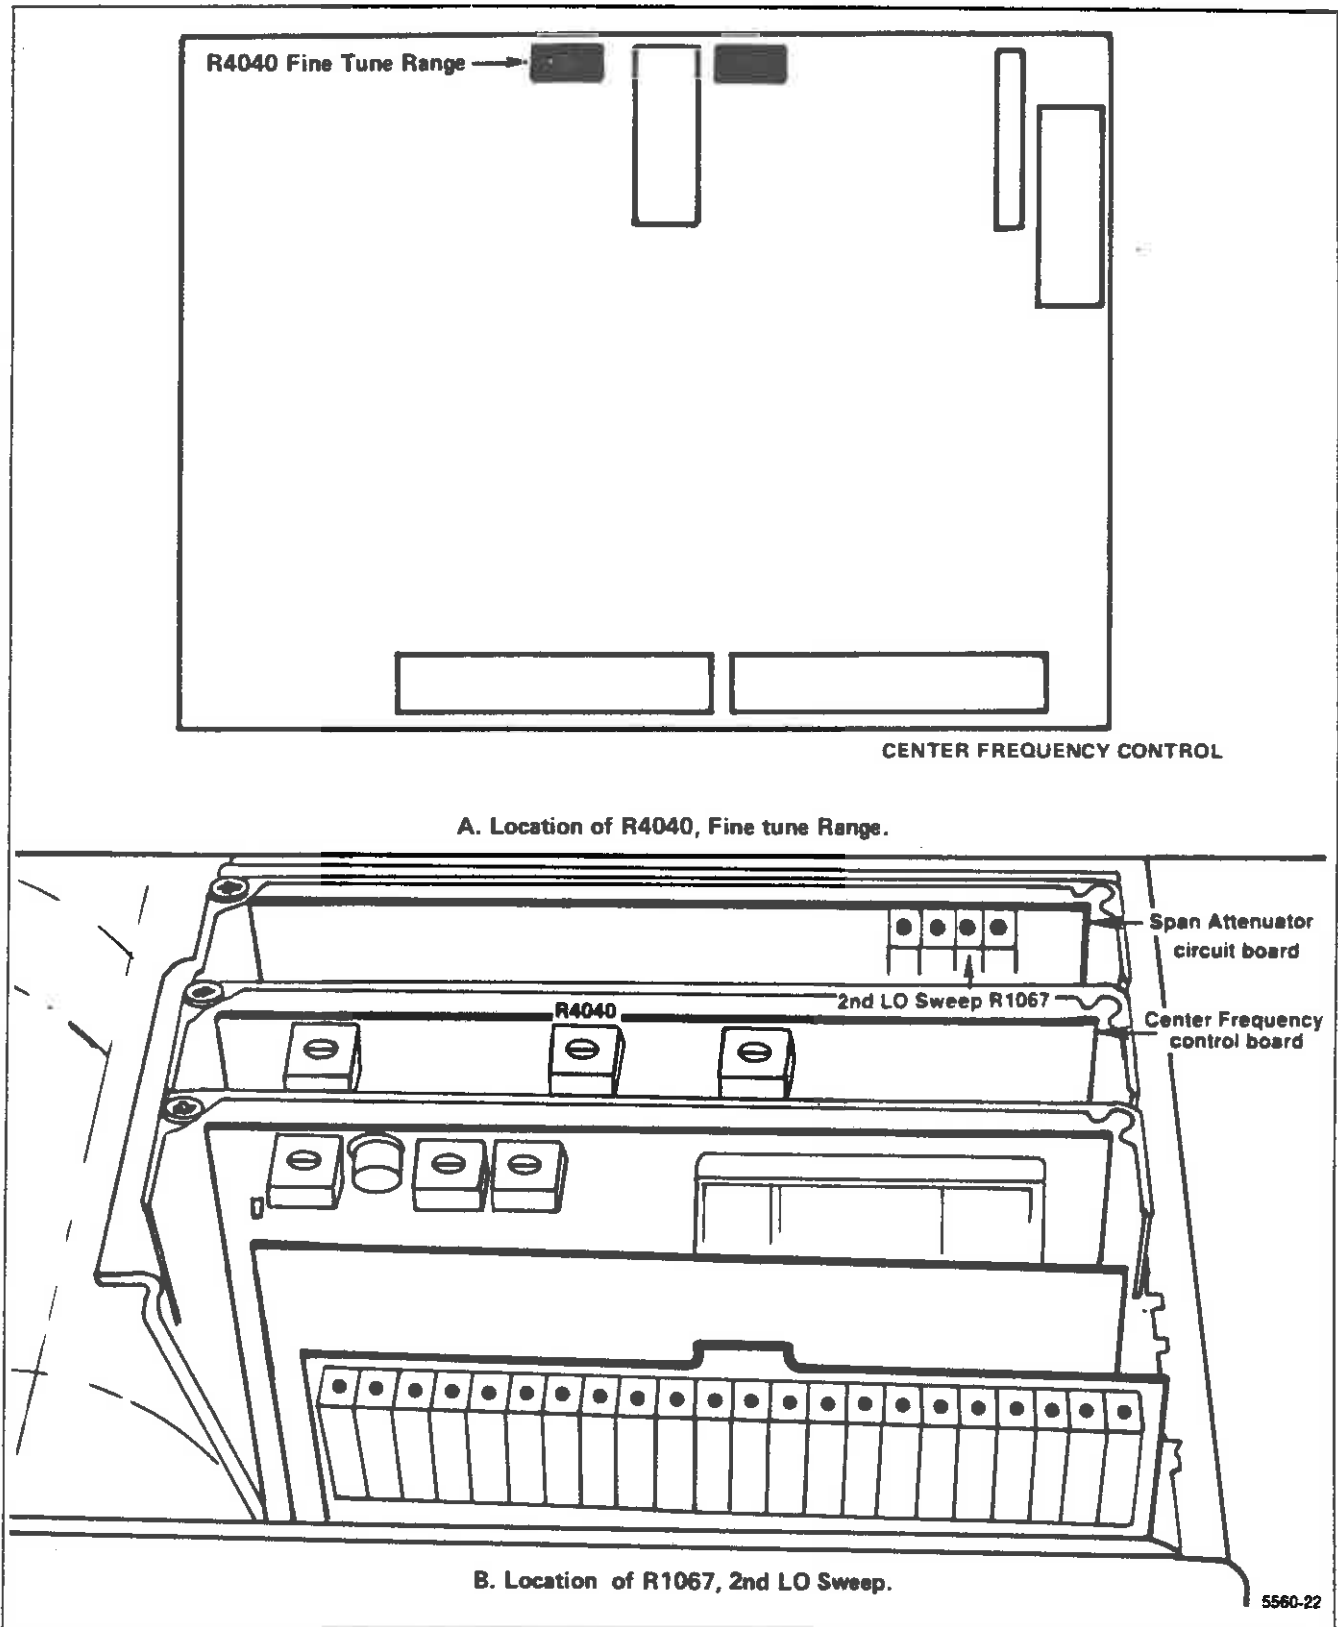

Figure 6-24. Tune and Sweep Range adjustments.
a. Center the Fine Tune adjustment R4040, on the Center Frequency Control board and the 2nd LO Sweep adjustment R1067, on the Span Attenuator board (Figure 6-24).
c. Press <SHIFT> 0, 6 to disable continuous tuning of the 2nd LO. Press <SHIFT> 0 and select item 0 (ALTERNATE FREQUENCY DISPLAY), then item 2 (2nd LO FREQUENCY DISPLAY). Readout will now indicate the 2nd LO frequency.
c. Adjust the 2nd LO Sweep R1067, on the Span Attenuator board (Figure 6-24), so the comb lines on opposite sides of the screen, are exactly 8 major divisions apart.